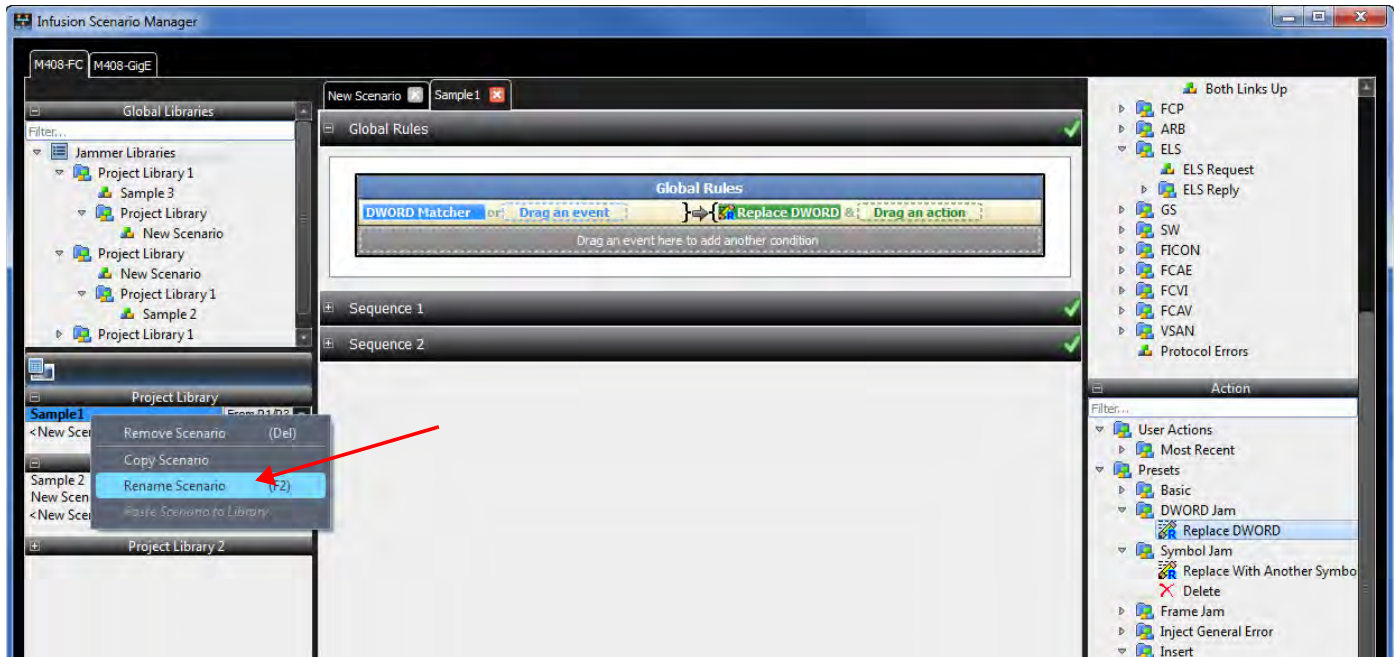

Figure 6.66: Global Rules – Naming a Scenario
4. The Event is added to the Global Rules panel (see Figure 6.66).
5. Select **Replace DWORD** in the Action panel and place it in the Global Rules panel (see Figure 6.66).
6. Right-click the New Scenario tab and select **Rename Scenario** and enter the name in the Library panel as shown in Figure 6.66.